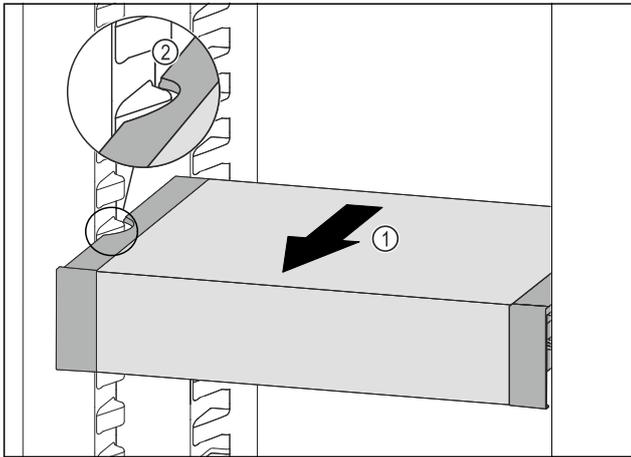

Fig. 105
- ▶ Pull VarioSafe forwards Fig. 105 (1) until the recesses in the side of the VarioSafe are at the level of the support rib in the fridge section. Fig. 105 (2)